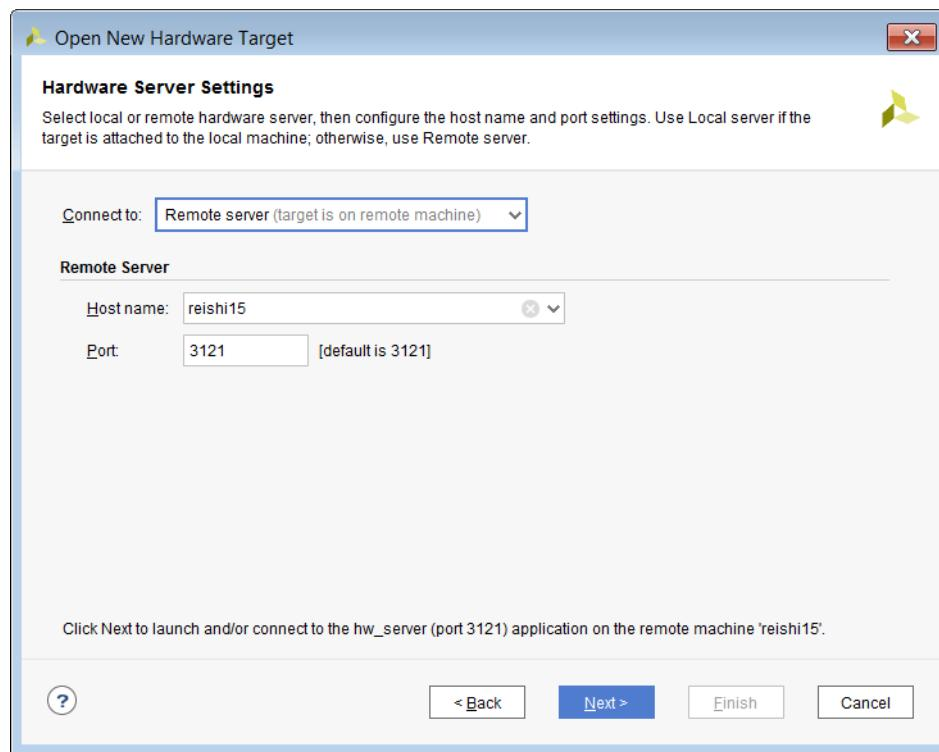

Figure 4-4: Using a Remote Hardware Server
- Remote server: Use this setting if your hardware target is connected to a different machine on which you are running the Vivado Lab Edition or Vivado IDE. Specify the host name or IP address of the remote machine and the port number for the hardware server (`hw_server`) application that is running on that machine (see Figure 4-4). Refer to Connecting to a Remote hw_server Running on a Lab Machine, page 228 for more details on remote debugging.